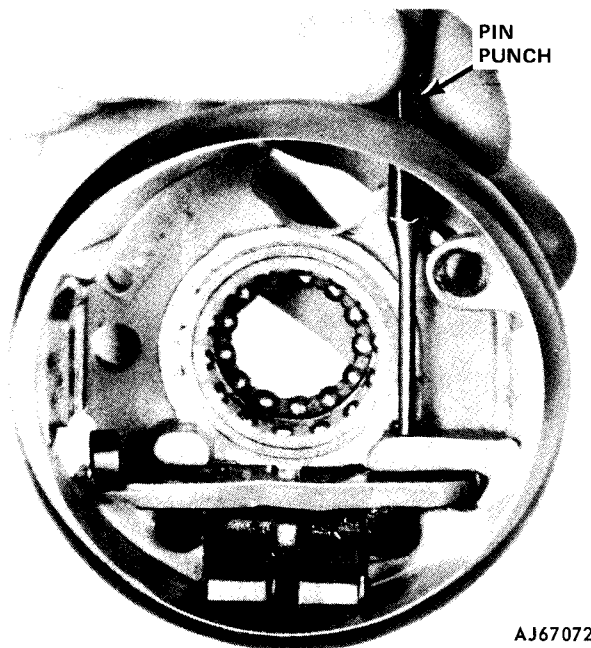

Fig. 11-39 Release Lever Pin Removal
- (34) If lock shoes, release lever, or springs are to be serviced, remove release lever pin and lock shoe pin with a punch or Pin Remover and Installer Tool J-22635. Hold lock shoe springs in compression to relieve load on pins (fig. 11-39 and -40).